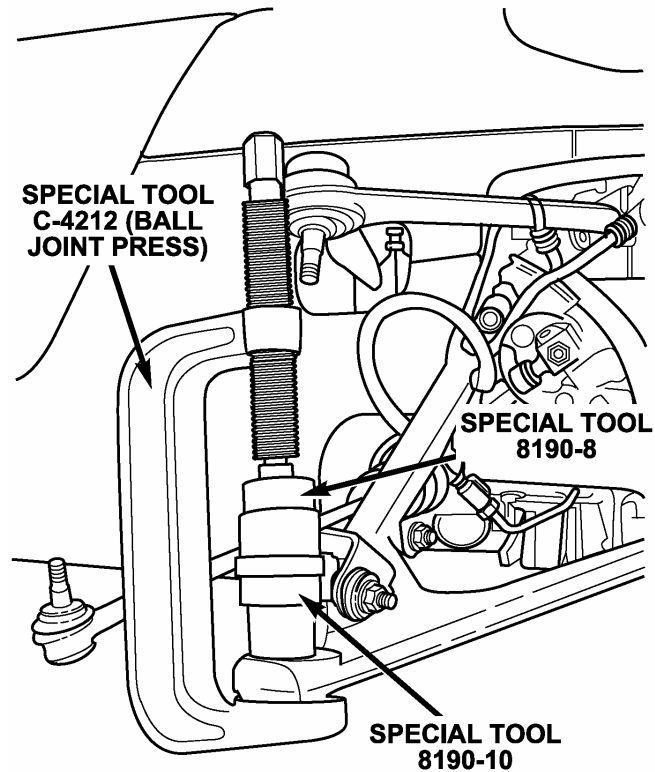

Figure 4
16. Install the ball joint press (C-4212) onto the lower ball joint as shown in Figure 4.